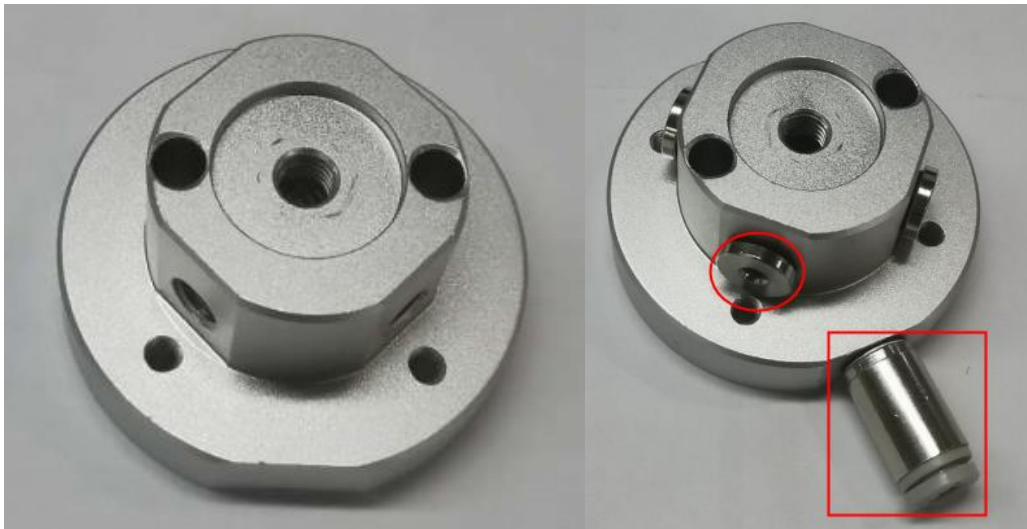

Figure 2.11 Install four plugs and gas connector
**Step 1** Install four plugs to the four holes of connection block, and install one gas connector to the hole on the side of connection block, as shown in Figure 2.11.